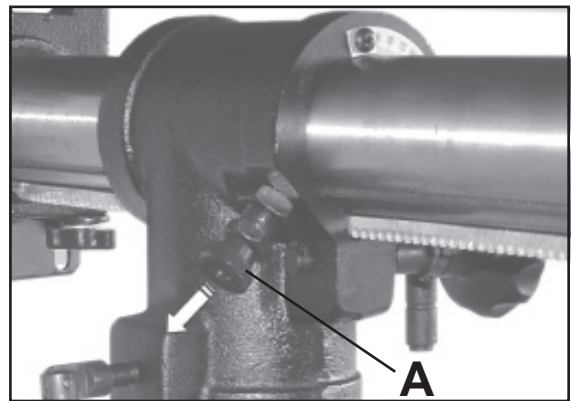

Figure 20
2. Pull the guide pin out on the left side of the drill press head (A-Fig.20) and rotate 90°. The head may be tilted to the desired angle.